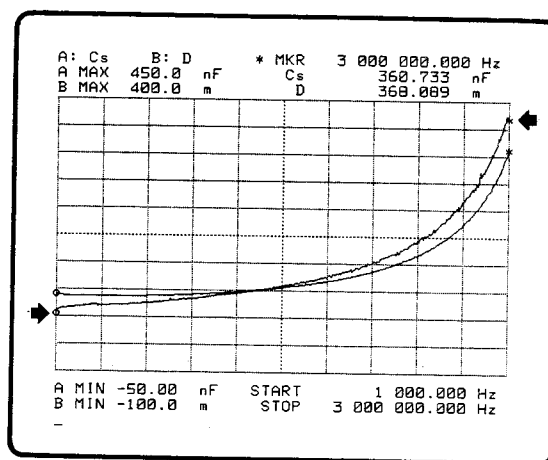

Figure 3-12. o-Marker and \*-Marker
**ENTRY** section key used to select MHz as the units entry, and instructs the instrument to read the data on the Keyboard Input Line. The \*-marker will move to the position of the end of sweep position as shown in Figure 3-12.